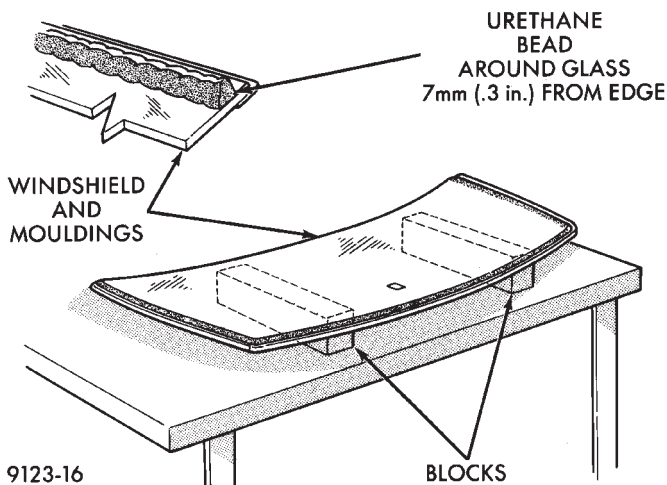

Fig. 4 Work Surface Set up and Molding Installation
(2) Position the windshield inside up on a suitable work surface with two padded, wood 10 cm by 10 cm by 50 cm (4 in. by 4 in. by 20 in.) blocks, placed parallel 75 cm (2.5 ft.) apart (Fig. 4).
(3) Clean inside of windshield with Mopar Glass Cleaner and lint-free cloth.
(4) Apply clear glass primer 25 mm (1 in.) wide around edge of windshield. Wipe with clean/dry lint-free cloth.
(5) Apply black-out primer 15 mm (.75 in.) wide on top and sides of windshield and 25 mm (1 in.) on bottom of windshield. Allow at least three minutes drying time.